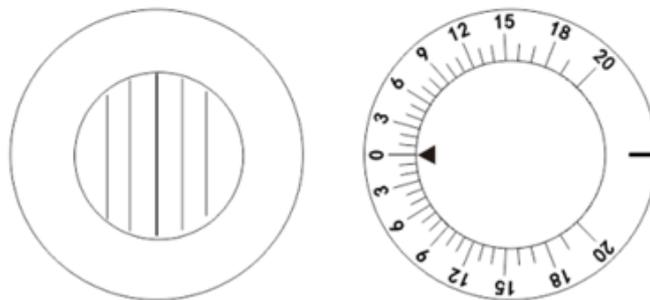
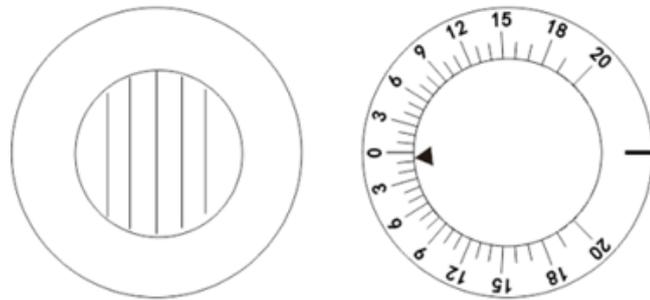

Fig.48
Fig.49
b. Then measure vertical phoria. As shown in Fig.48, turn auxiliary lens knob ②① and set MRV for the right eye. Turn rotation prism lens ①② to set the left eye at horizontal position. Now Testee can see red horizontal line with the right eye, and the light spot with the left eye. Then using same procedure of a, ask Testee when he can see red line and light spot meet while turning prism lens rotation knob ①①. When it is shown as Fig.49, Testee reports they meet, it is 0.5, below 0, indicating left eye is $0.5\Delta D$, called 0.5Δ upward heterophoria.